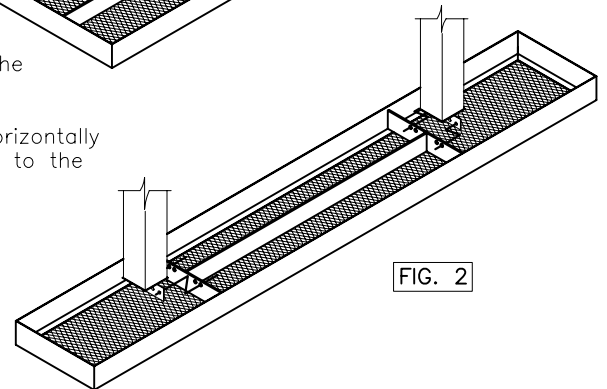

FIG. 2
Invert both (B) seats so they're upside down on a flat surface. Attach each (C1) or (C3) legs to the outside of the seat's mounting brackets, see FIG. 2. Use two, per each leg, (G) and (J) using two (I) and one (K) per (G). Draw the fasteners to a snug fit with wrenches.